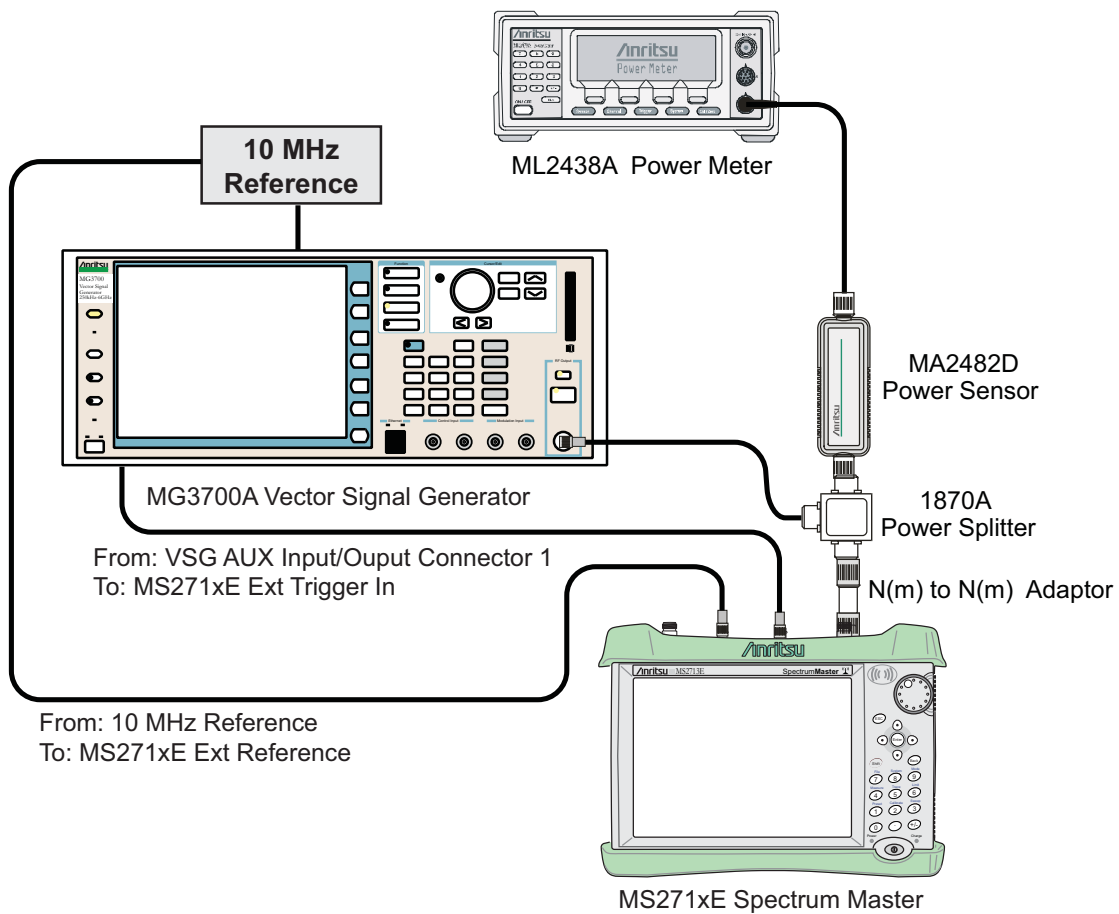

Figure 4-13. EVDO Signal Analyzer Option Verification
2. Connect the equipment as shown in Figure 4-13.